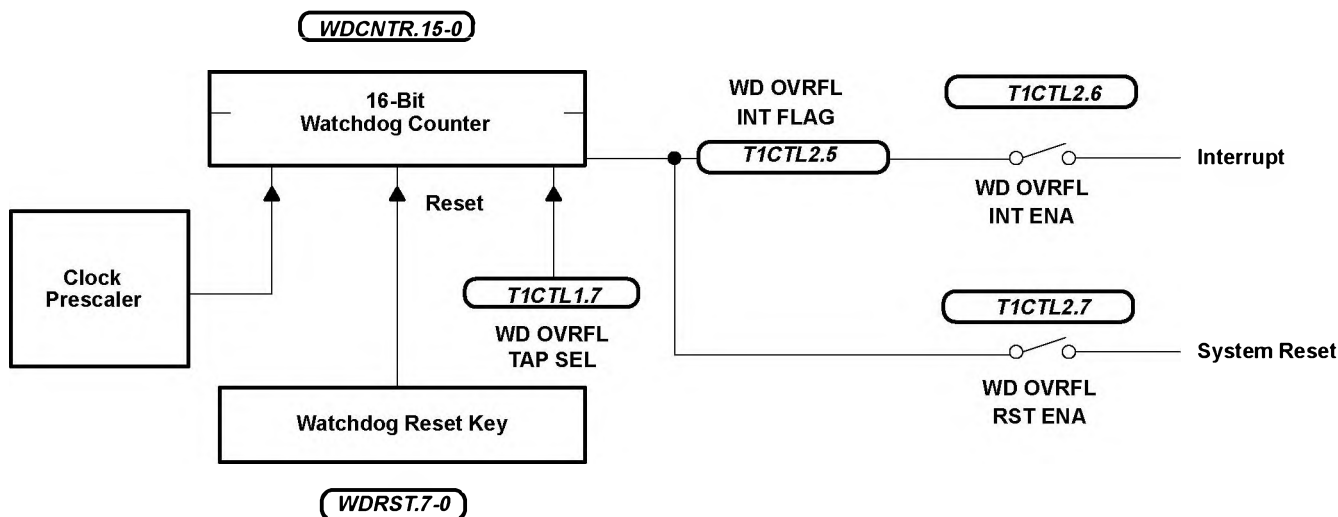

Figure 9. Standard Watchdog
- Standard watchdog configuration (see Figure 9) for 'C712A EPROM and mask-ROM devices: